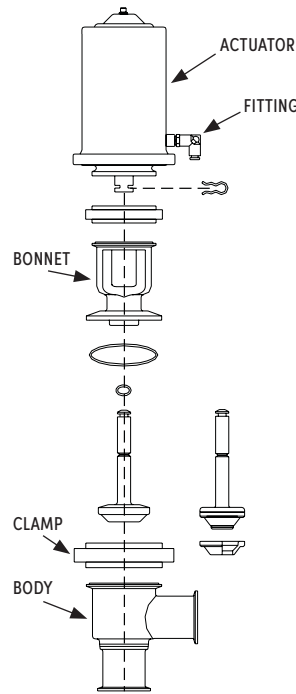
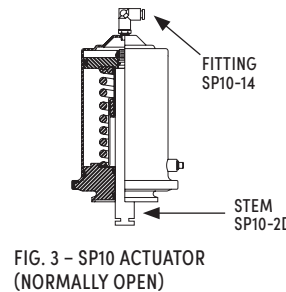
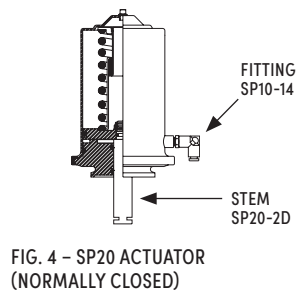
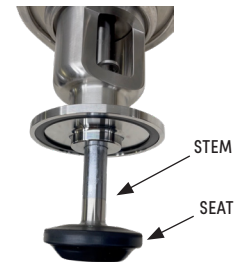

FIG. 2 - SP-160 SHORT STROKE SHUT-OFF VALVE
FIG. 3 - SP10 ACTUATOR (NORMALLY OPEN)
FIG. 4 - SP20 ACTUATOR (NORMALLY CLOSED)
FIG. 6 - DE-ENERGIZED SP20/120 ACTUATOR (NORMALLY CLOSED) OR ENERGIZED SP-10/110 ACTUATOR (NORMALLY OPEN).
1. To separate the body from the bonnet (see fig. 2) first check to see which model actuator is present. A normally-closed SP20/120 actuator (see fig. 4) will have the stem/seat in the down/closed position, thus **air pressure must be applied to the fitting toward the bottom of the actuator prior to removing clamp**. For a normally-open SP10/110 actuator (see fig. 3), energizing with air is not necessary. See figures 6–7 for stem/seat reference.
- Installed further from valve/fluid side, on the top of the actuator = normally open SP10/110 (see fig. 3)
- Installed closer to valve/fluid side = normally closed SP20/120 (see fig. 4)